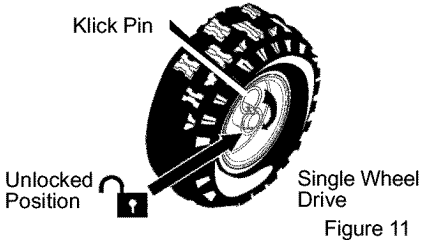

Figure 11
2. For ease of maneuverability in light snow conditions, disconnect the **click pin** from the wheel **locked position** and push into the single wheel drive position (**unlocked axle hole only**). See Figure 11.